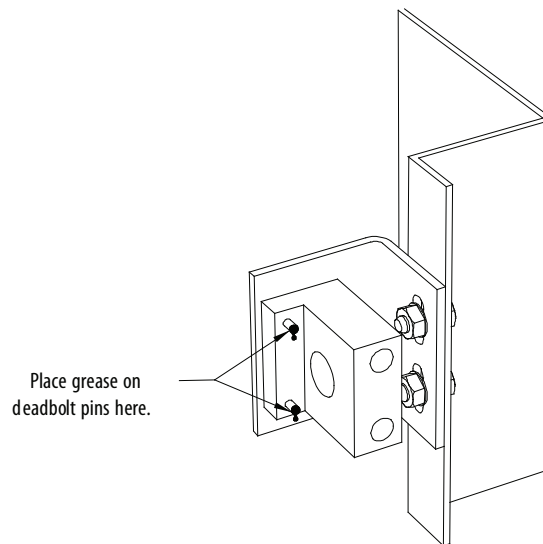

Figure 253 - Deadbolt counterpart mounted to cabinet
3. Open the doors of the cabinet and inspect the key assembly. Place high visibility grease on the pins of the deadbolt counterpart. The factory recommends using yellow torque sealant, however if it is unavailable almost any grease will do. (See Figure 253)